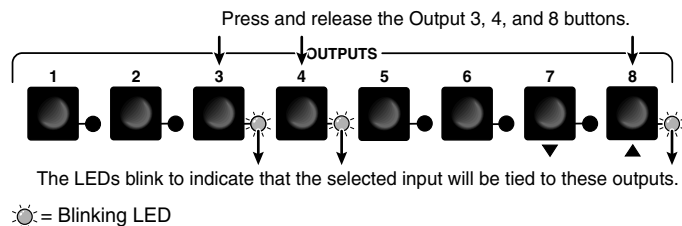

Figure 3-5 — Select the outputs
- Press and release the Output 3, Output 4, and Output 8 buttons (figure 3-5).